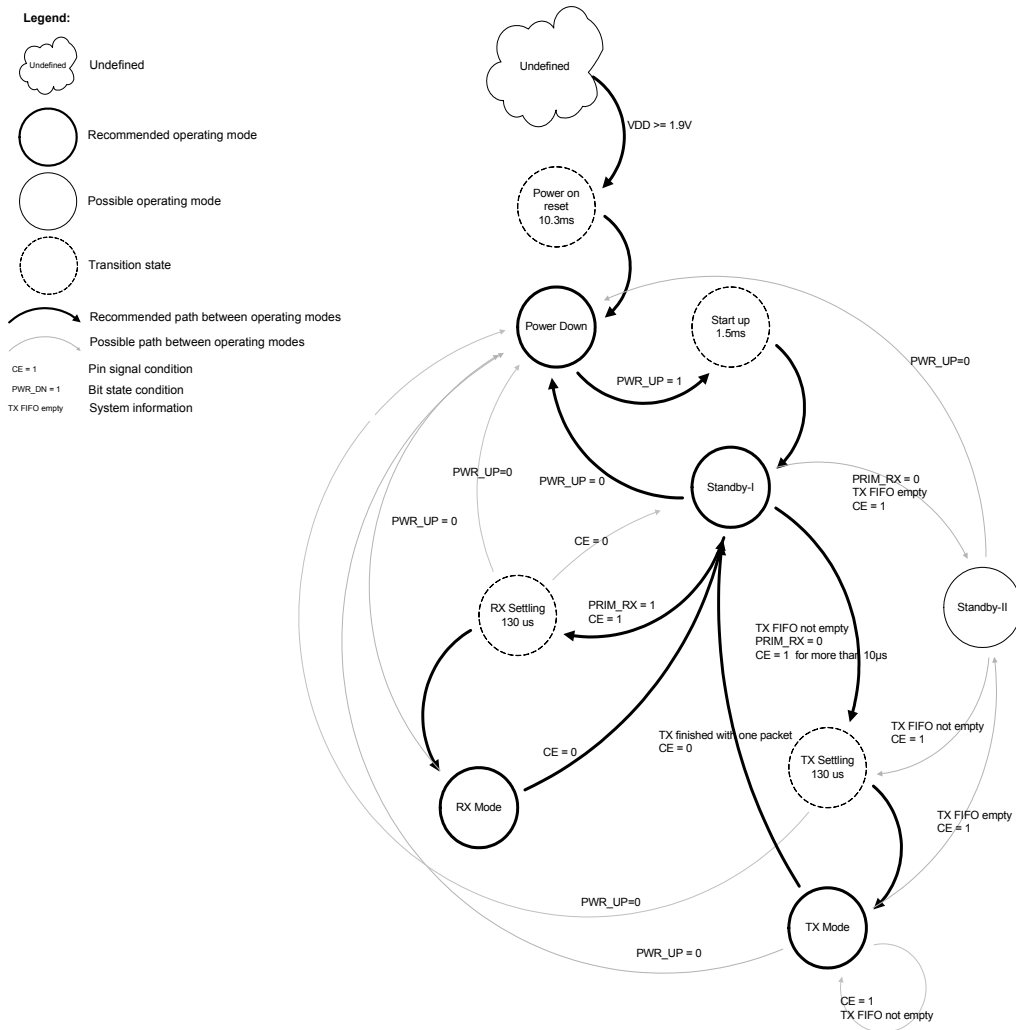

Figure 3. Radio control state diagram
The state diagram (Figure 3.) shows the modes the nRF24L01 can operate in and how they are accessed. The nRF24L01 is undefined until the V_{DD} becomes 1.9V or higher. When this happens nRF24L01 enters the Power on reset state where it remains in reset until it enters the Power Down mode. Even when the nRF24L01 enters Power Down mode the MCU can control the chip through the SPI and the Chip Enable (CE) pin. Three types of states are used in the state diagram. "Recommended operating mode" is a state that is used during normal operation. "Possible operating mode" is a state that is allowed to use, but it is not used during normal operation. "Transition state" is a time limited state used during start up of the oscillator and settling of the PLL.